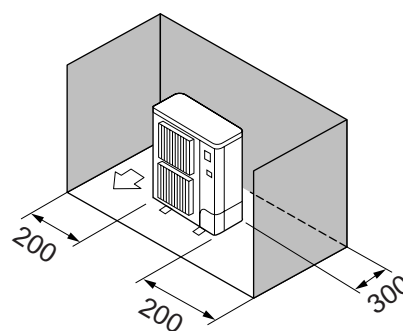

Fig.2-6
- Obstacles at rear and sides only (Fig. 2-6)